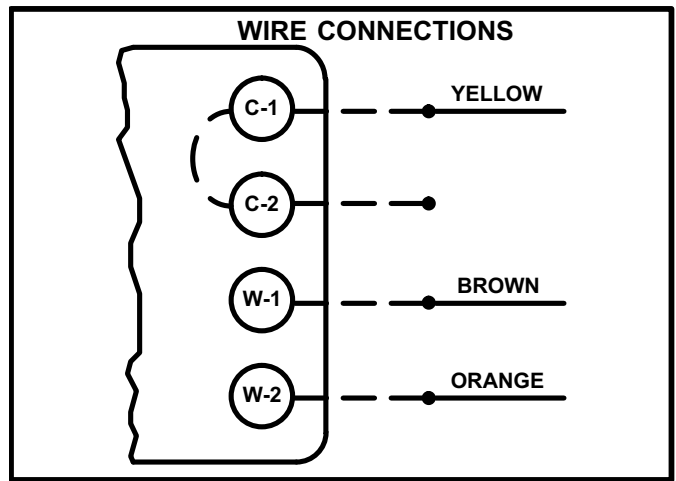
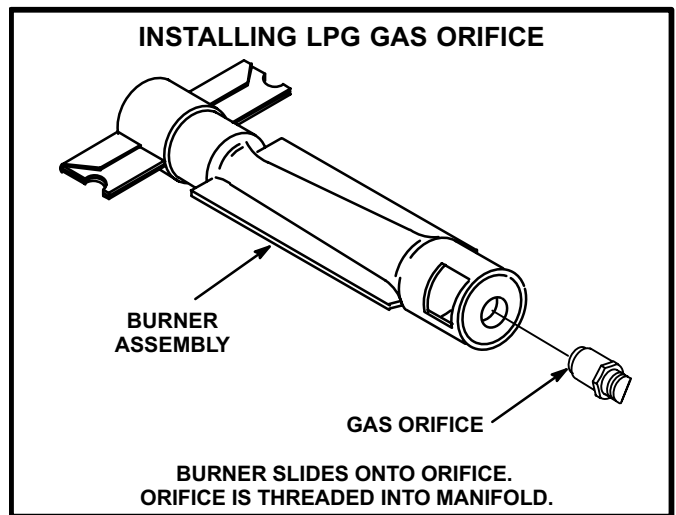

FIGURE 44
FIGURE 45
L.P.G. conversion in all GCS16 units requires that the gas valve and the burner orifices be changed. Figure 44 shows the field wiring of the new gas valve. Figure 45 shows the orifice changeout.